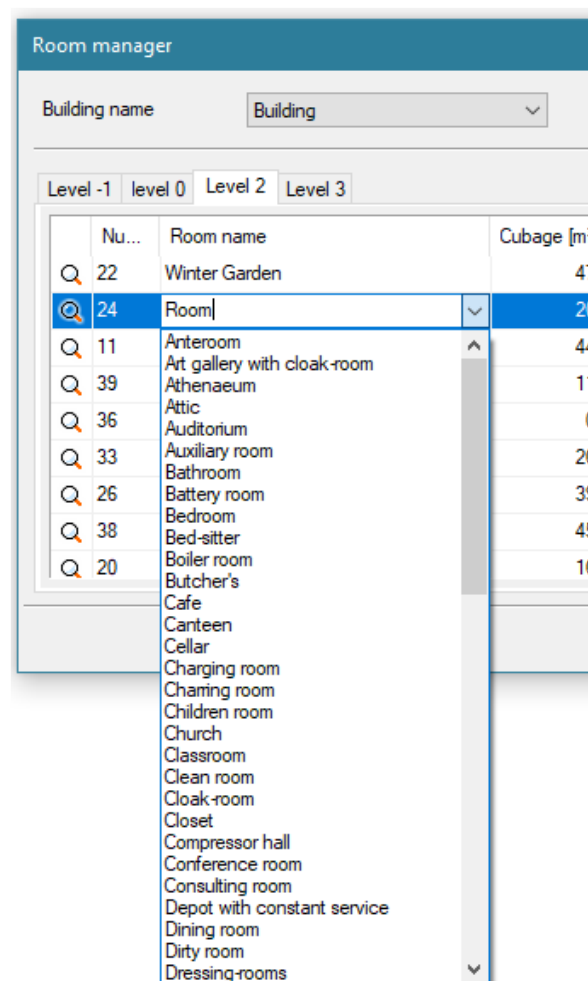

Fig. 42 The Room manager window with the expanded room list
- the room name. It can be entered manually independently or selected from the drop-down list of hints (Fig. 42),